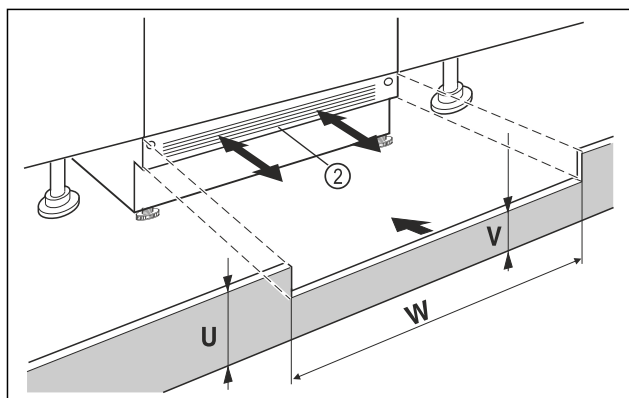

Fig. 16 Example illustration
- Put on the appliance base cover Fig. 16 (2) but do not fix it yet.
- If the base cover Fig. 16 (2) is visible, pull it so far forward that the front edge of the ventilation grille and the unit base cover form one level.
- If the base cover is concealed Fig. 16 (2), push it all the way back.
- Ensure that the ventilation slots are completely free: If necessary, cut the height of the unit base cover Fig. 16 (U) to size!
- Adjust the bar height Fig. 16 (V) under the appliance base cover Fig. 16 (2) along the recess width Fig. 16 (W).